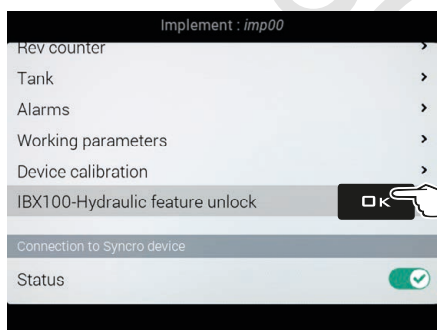

Fig. 8
- Select the item **IBX100-Hydraulic feature unlock** (Fig. 8, menu **Implement** of the monitor) and press **OK**.